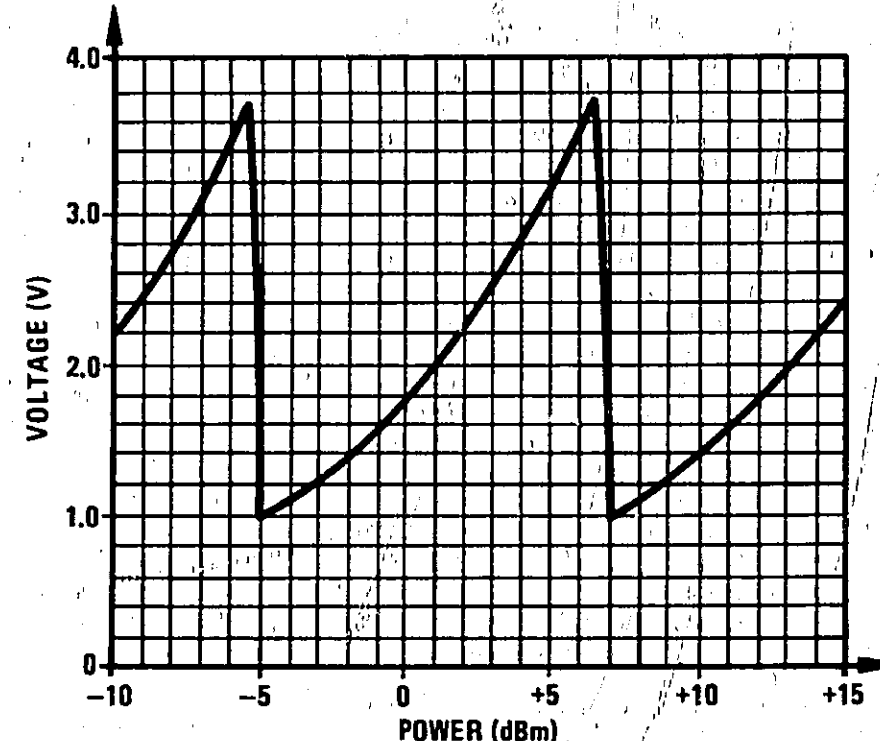

Figure 8-44. Voltage at A7TP3 vs. Power Output
10. If the voltage range at A7TP4 is incorrect, attach the voltmeter to A7TP3. This voltage varies as shown in Figure 8-44. If this voltage is correct, measure U1B pins 5 and 6. They should be equal. If they are equal, the multiplexer, U5, is probably defective. If the inputs to U1B are not equal, then the problem is probably in U1B or associated components.